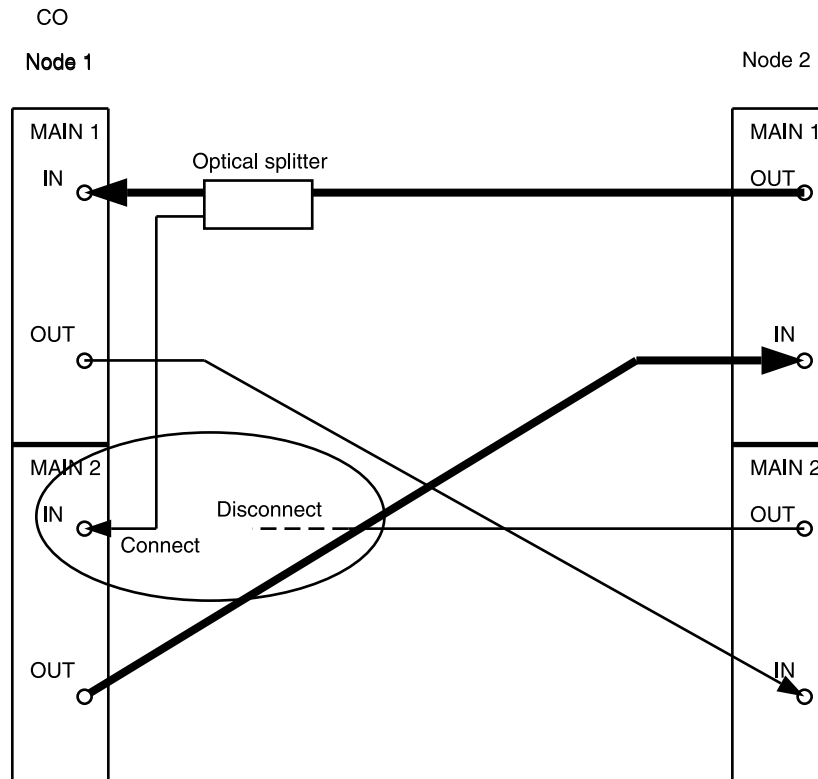

Figure 12 – DDM-2000 OC-3 Drop or Add/Drop Network to Ring Upgrade
22. Disconnect optical fiber from Node 1 **MAIN 2(P) IN** and connect remaining optical splitter output to **MAIN 2(P) IN**. (See Figure 12.)